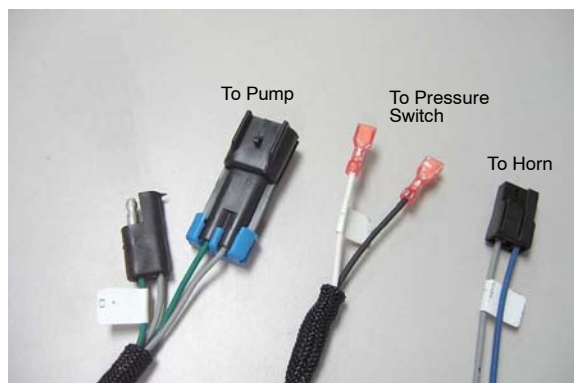

Fig. 12
10. Route the following *ec-H2O* harness wires (Figure 12) as described in step 11.